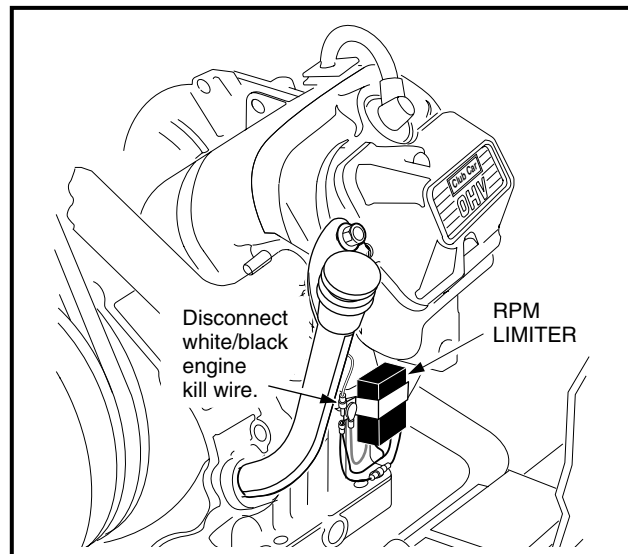

Figure 11-41 Disconnect White/Black Engine Kill Wire
2. Disconnect the engine-kill white/black wire at the bullet connector located next to the RPM limiter (**Figure 11-41, Page 11-33**).
- Disconnect white/black wire bullet connector located at the engine RPM limiter (**Figure 11-41, Page 11-33**).